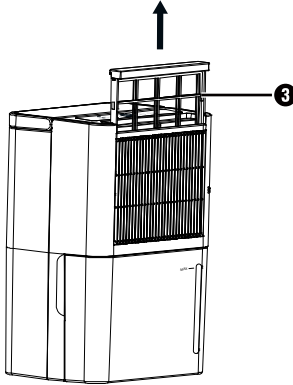

Fig. 6
- ◆ The air filter **3** is located behind the air inlet grille **2**. Take hold of the grip edge of air filter **3** with your fingers and pull it upwards out of the appliance (see figure 6).